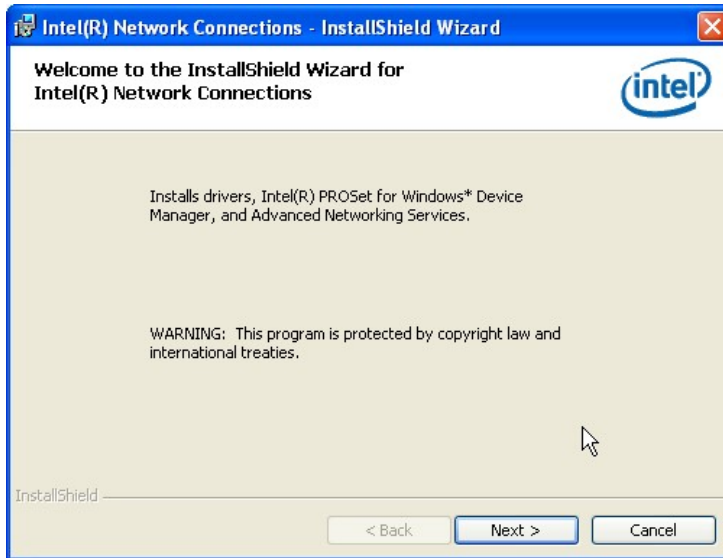

Figure 6-14: LAN Driver Welcome Screen
Step 6: The **Welcome** screen in **Figure 6-14** appears.